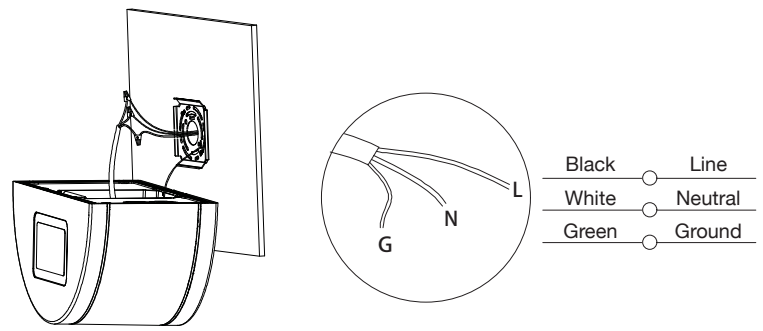

Fig. 5
5. Connect wires according to below wire diagram. (Fig. 5)